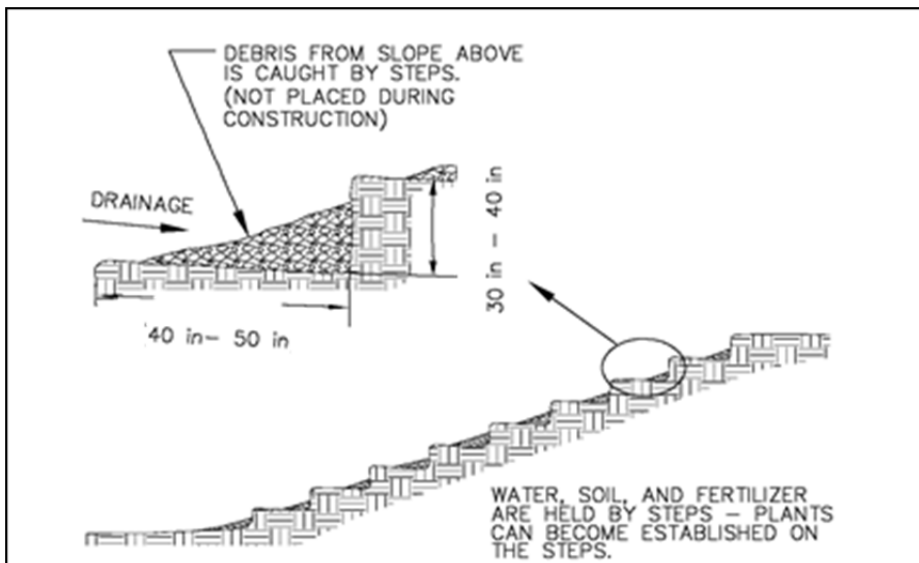

Figure 7: Stair-Step Grading
- Stair-Step Grading should be used on slopes having rock soft enough to be ripped by a bulldozer. It is appropriate for cut slopes 3H:1V or steeper that will not be mowed. (Wherever Stair-Step Grading (**Figure 7**) is used, the width of the horizontal cut should exceed the height of the vertical cut by 10 inches and be graded toward the inside of the vertical cut. Individual vertical cuts should not exceed 30 inches in soft material or 40 inches in harder rock. The horizontal cut should be graded toward the vertical cut.